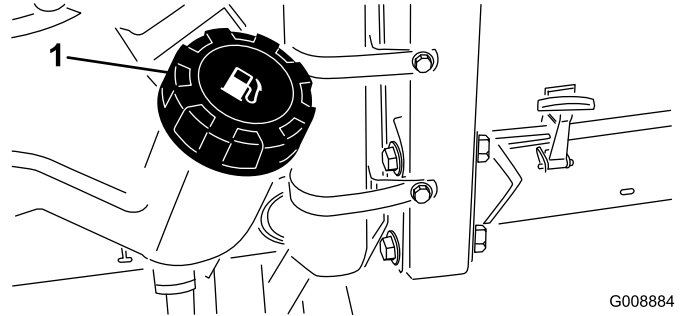

Figure 25
1. Clean the area around the fuel-tank cap (Figure 25).